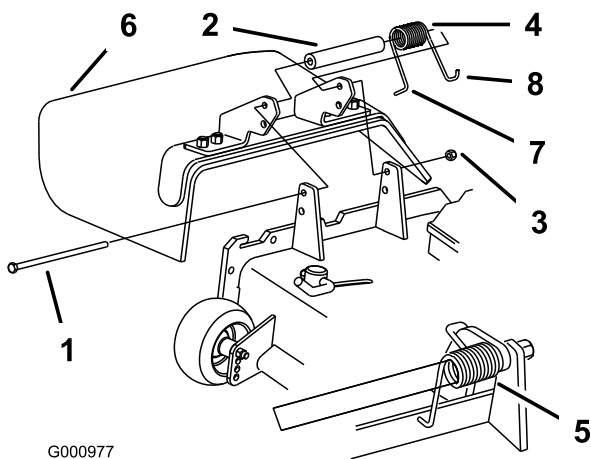

Figure 36
1. Remove the locknut, bolt, spring and spacer holding the deflector to the pivot brackets (Figure 36). Remove the damaged or worn grass deflector.
**Note:** Make sure the **L** end of the spring is installed behind the deck edge before installing the bolt as shown in Figure 36.
3. Install the bolt and nut. Place the **J** hook end of the spring around the grass deflector (Figure 36).